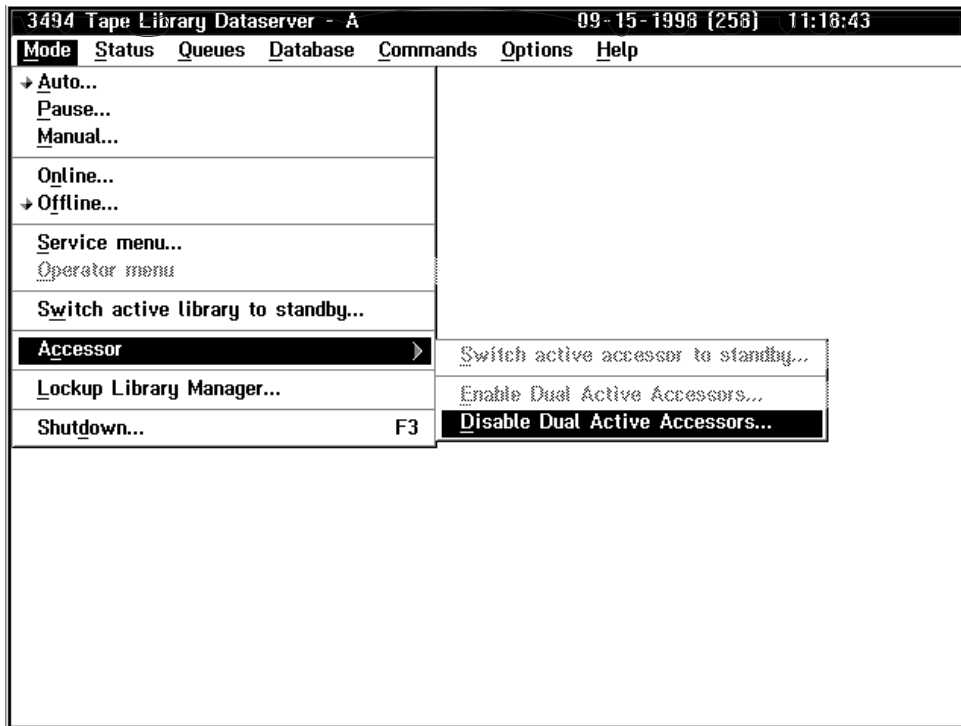

Figure 140. Mode Pull-Down Menu
1. Select **Mode** (see Figure 140) from the action bar on the Operator Menu at the library manager. See “Using the Mode Pull-Down” on page 99.